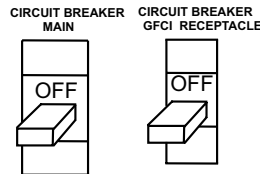

Figure 31. GFCI and Main Circuit Breaker (OFF)
1. Place both the **MAIN** and **GFCI** circuit breakers to the "OFF position" (Figure 31).